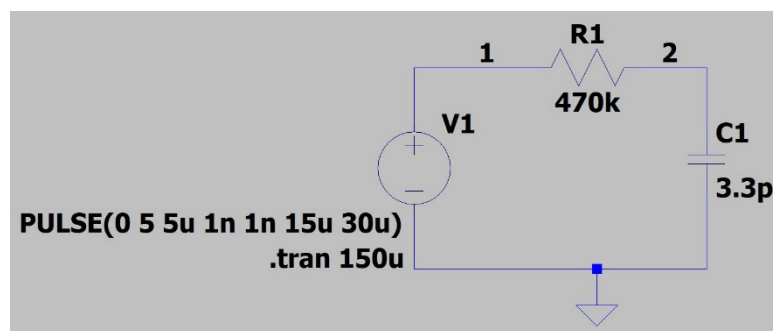

Figure 7: Low Pass Filter
- 49) Open a new schematic file, and draw the circuit of Figure 7 below